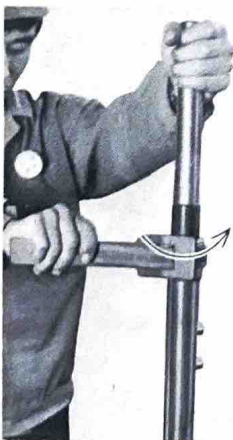

Fig. 5-7-3
- a. Wind a rubber sheet or a tire tube around the outer tube nut, and remove the nut. Disassemble the tubes in the manner as shown in Figs. 5-7-3 or 4.